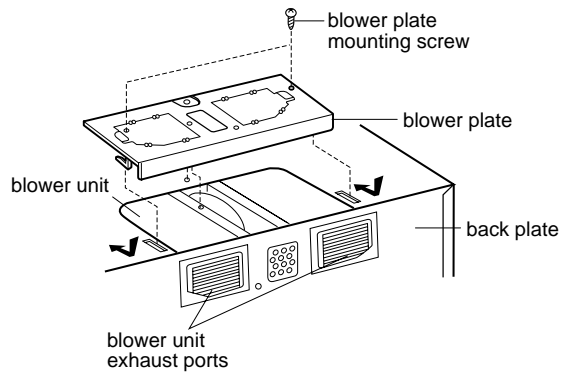

Figure 16
6. Reattach the blower plate to cabinet so the exhaust ports and blower plate opening are aligned. Attach with one blower unit mounting screw and then two blower plate mounting screws. See Figure 16.